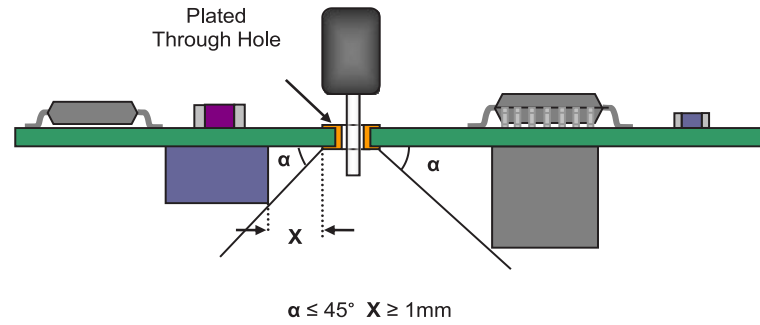

Figure 59: Through-hole placement requirements.
- [107] In order to facilitate manual soldering and maintenance/repair the conditions shown in figure 59 must be satisfied.